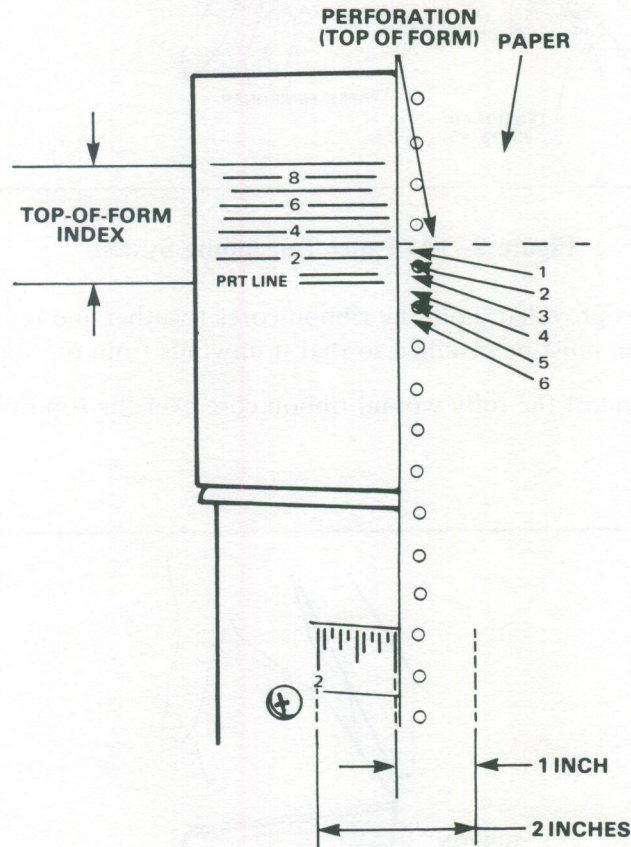

Figure 8-13. Paper Alignment
- The Top-of-Form Index may be used when installing paper to allow the first line of print to appear on any of the first nine lines after the paper perforation. In Figure 8-13, paper is installed with a two-line top-of-form spacing and printing will start on the third line.
- Paper may be installed using the HORIZONTAL PAPER POSITIONING Control to allow the first print-column to be indented up to two inches from the paper's edge. In Figure 8-13 paper is installed with the first print column indented approximately one inch.